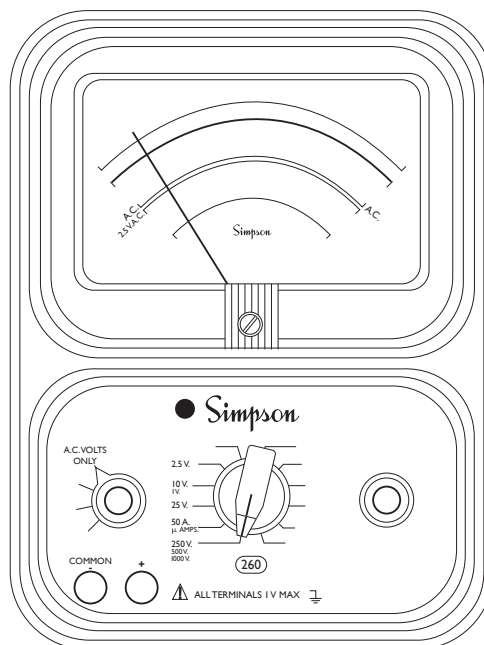

Figure 4-6. Jacks and Switch Positions for Measuring AC Voltages, 0-2.5V through 0-250V Ranges
- a. Set the function switch at AC Volts Only position (Figure 4-6).